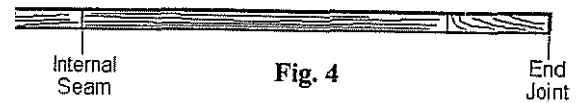

Fig. 4
5. The proper nail spacing (by hand or by machine) is at least one nail every 6" to 8". Every board should be nailed so there will be nails within the last three inches of both ends of the board. Additional nails will enhance holding power. Do not nail closer than two inches from the ends of boards. **IMPORTANT:** Internal seams do not require nails on either side of the seam, (Fig. 4), fasten only within three inches of the actual end joint.
6. Continuous Strip® has "end joints" and "internal seams" (see Fig. 4). The end joints should be staggered by a minimum of 6 inches between rows. However, the internal seams need not be staggered. If you are concerned about how they look, Prolinea has done extensive consumer research. As a professional hardwood flooring installer you may be concerned about the looks because you are a perfectionist--a very good trait to have. But the consumer does not find the look offensive. This is partly because the internal seams are so tight that they are less noticeable than is an end joint.